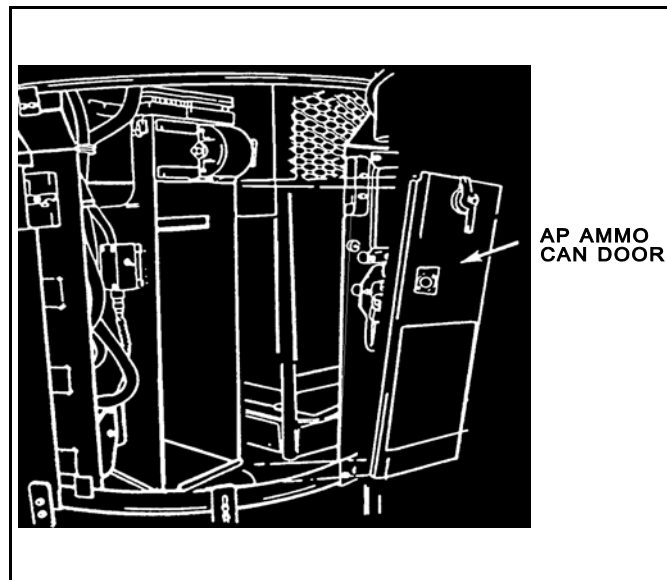

Figure 1. AP ammunition can door.
3. Remove the AP ammunition can door (Figure 1).